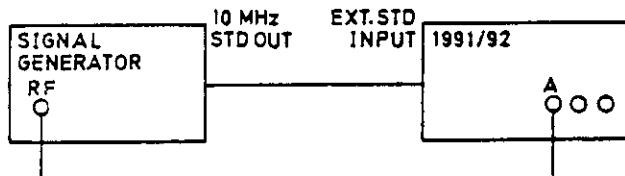

Figure 6.27 - Connections for Channel A Sensitivity PVP (I)
- b. Connect the test equipment as shown in Figure 6.27. Check that the EXT STD LED lights